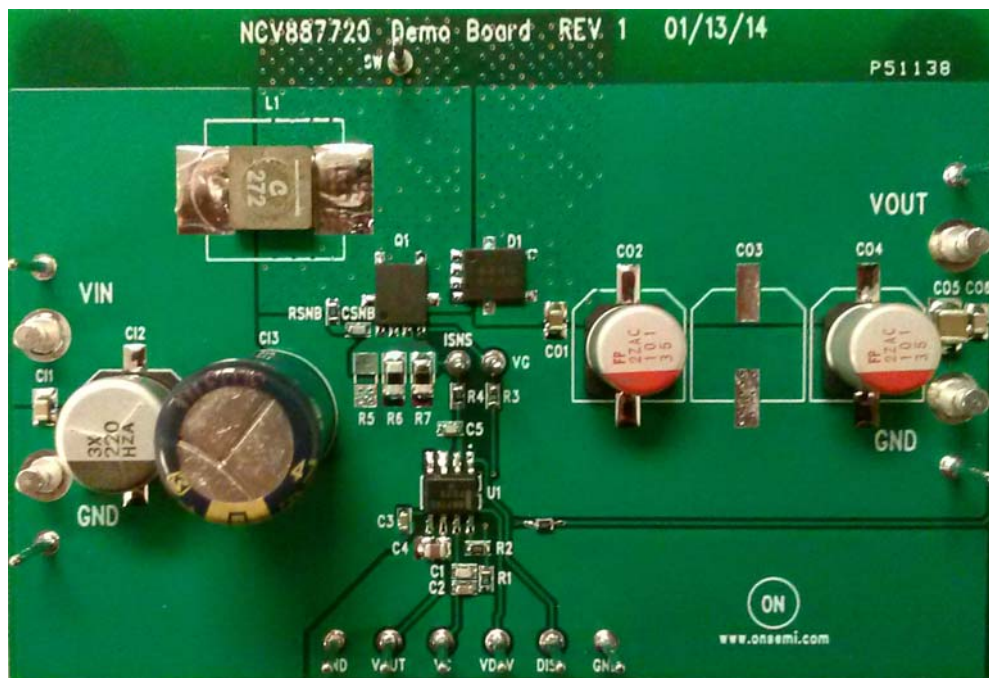

Figure 1. NCV887720 Start-Stop Evaluation Board
1. Connect a DC source voltage (15 A capable) set to a voltage of 13 – 14 V as shown in Figure 1.
2. Connect the DISB TTL control signal as shown in Figure 1. The initial DISB state should be set to logic -'0'.